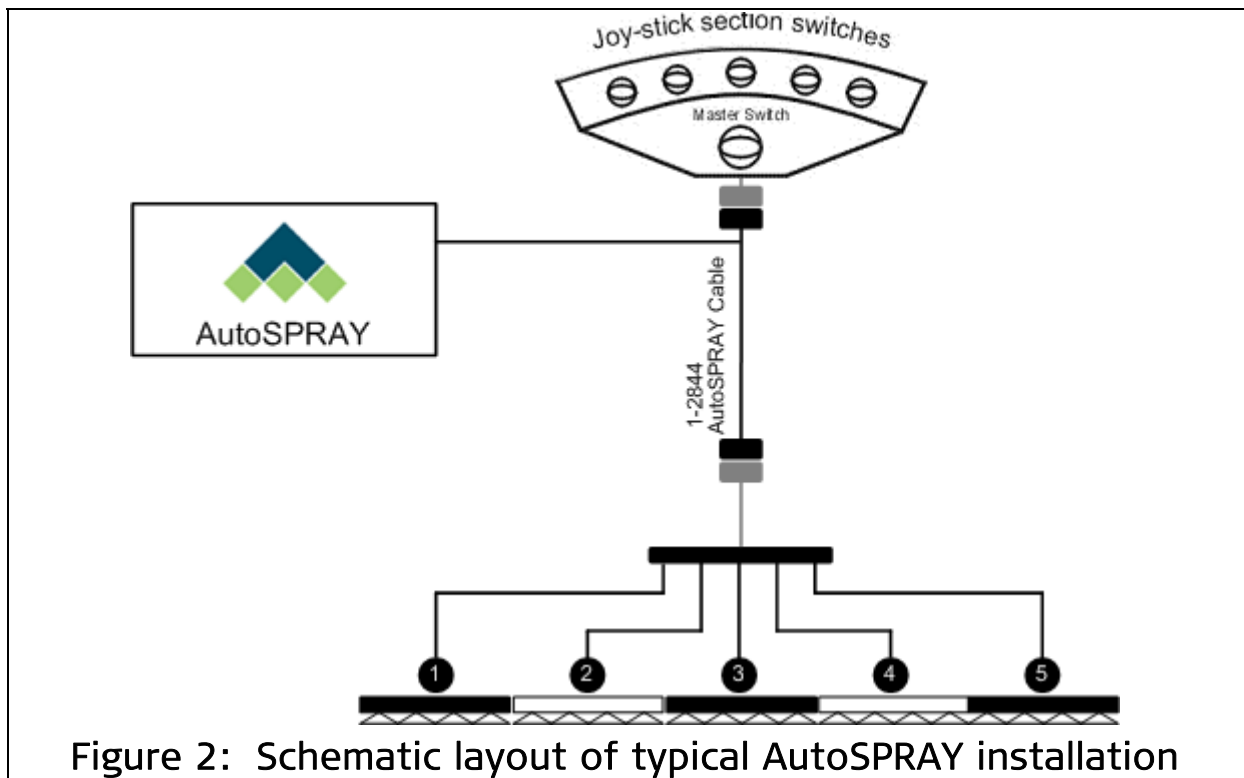

Figure 2: Schematic layout of typical AutoSPRAY installation
A schematic of the cable installation is shown in Figure 2
3.	The supplied 1-2844 Nitro AutoSPRAY interface cable simply connects in-line with the harness as shown in Figure 2.